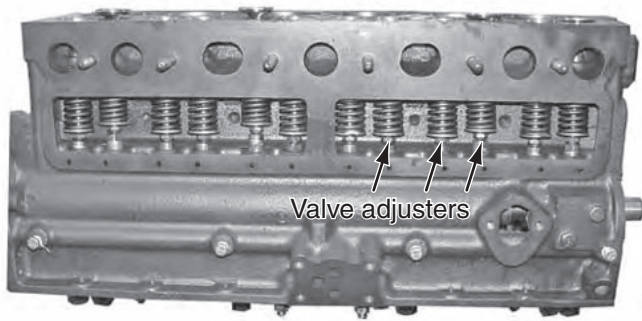

FIGURE 17.60 Typical valve adjustment on a vintage flathead engine involves the removal of access panels on the side of the block. (Courtesy of Tim Gilles)
- Insert a feeler gauge of the specified thickness between the rocker arm and the valve tip, and take up the clearance at the rocker adjustment screw (Figure 17.60).
Flathead engines, also called L-head engines, were popular until the early 1950s. A typical flathead like the Studebaker six cylinder engine shown in Figure 17.60 had removable covers on the side that allowed access to the valve adjusters at the bottoms of the valve stems.